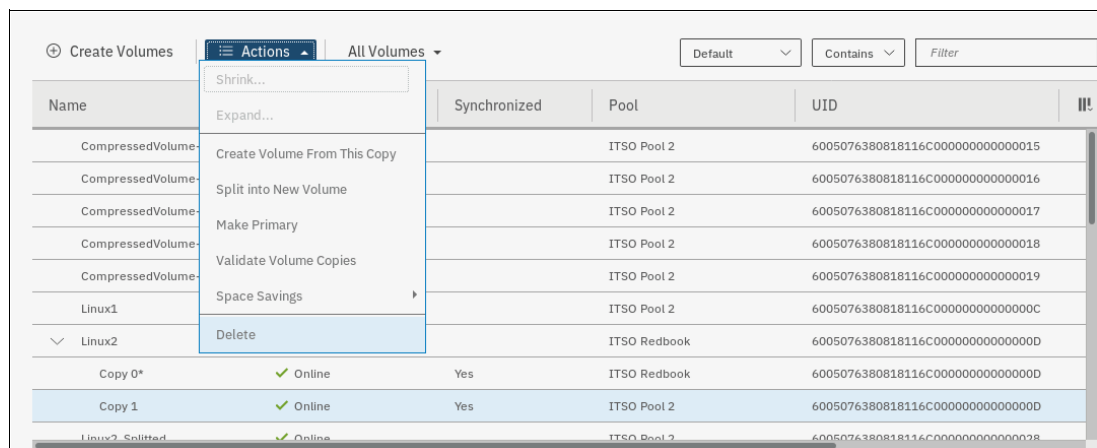

Figure 8-65 Actions menu: Delete a volume copy
1. Click **Delete** (as shown in Figure 8-65) to delete a volume copy.